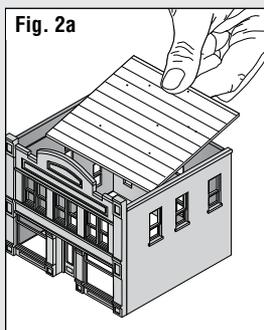

Fig. 2a
- Install Roof by sliding into place. Be sure it sets squarely on the support ledges. (**Fig. 2a**)